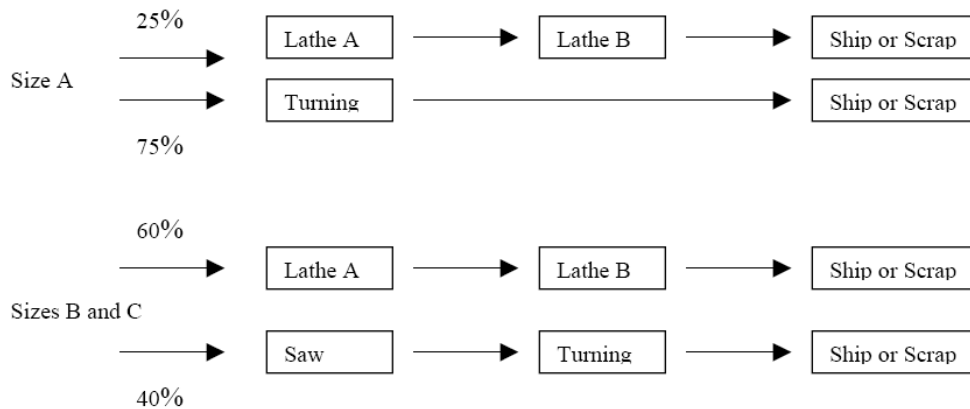

Figure Q4[b] (Redraw this figure changing turning to milling)
- Q4.** An automotive industry supplier manufactures three types of couplings. The couplings are produced in three different sizes, here referred to as sizes A, B, and C. The supplier has a total of four machines: one saw, two lathes and one milling machine. The process flow is shown in Figure Q4[a]. The information related to product and machine performance are shown in Table Q4(i) and Q4(ii) The company is running 16 hrs per day for 250 days per year. Based on the information given, justify whether with the available machines the company is able to cope with the customer annual demands.